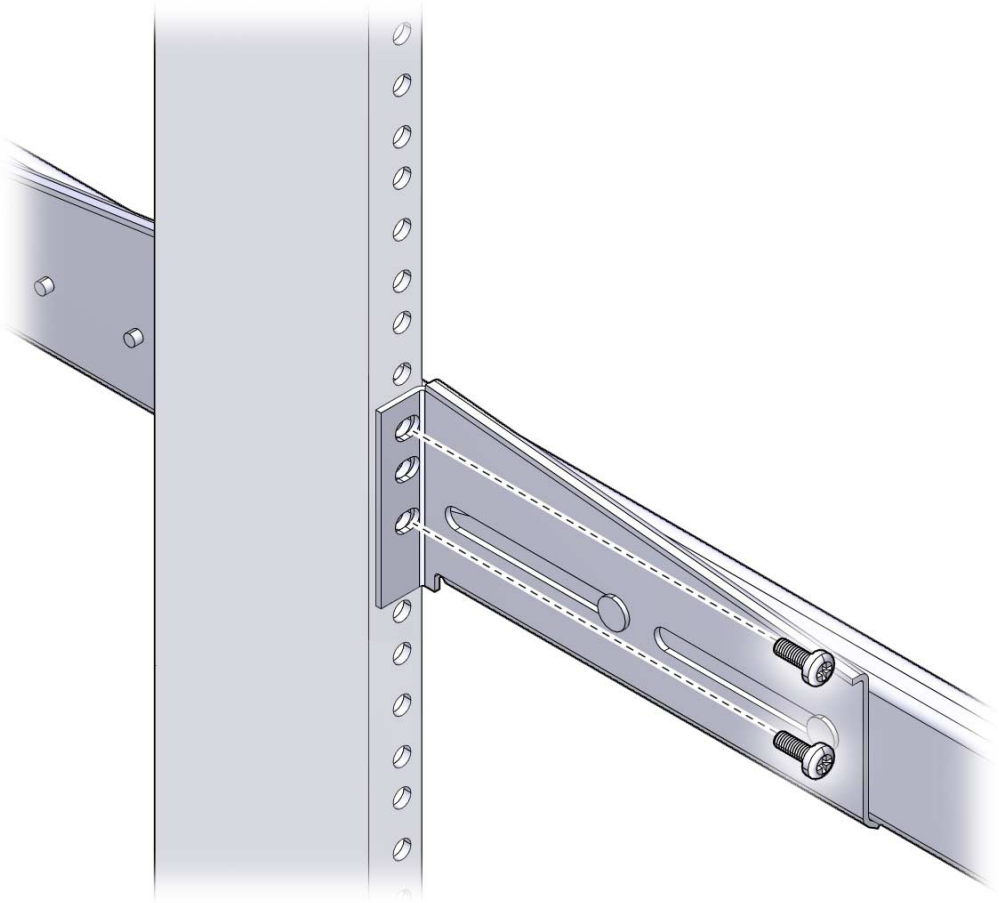

FIGURE 3-18 Securing the Rear Brackets to the Rack Posts
5. Lift each front bracket to the desired position at the front of the rack, and attach a front bracket to each of the front rack posts (FIGURE 3-18).
6. Lift each rear bracket to the desired position at the rear of the rack, and attach a rear bracket to each of the rear rack posts (FIGURE 3-18).